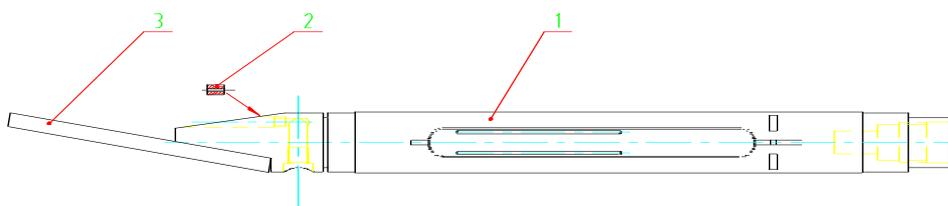

Figure 10 Assembly of drilling rig
2.10.1.3 (As shown in Figure 10), the probe shall be connected to container tube.